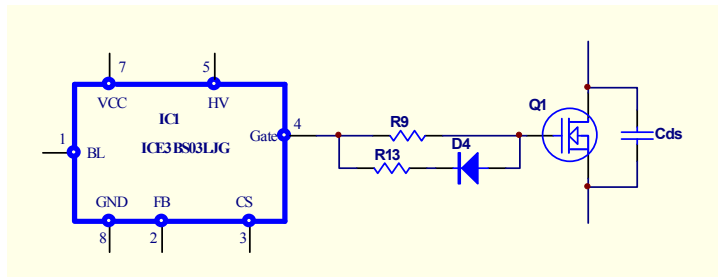

Figure 16 Drain-source capacitor and turn on/off drive resistor
1. Add capacitor (Cds) at the drain source pin (refer to Figure 16): it can slow down the turn off speed of the MOSFET and the high $\Delta V/\Delta t$ noise will be reduced and so is the EMI noise. The drawback is more energy will be dissipated due to slower turn off speed of MOSFET.
2. Adjust the turn on (R9) and turn off (R13 and D4) gate series resistor (refer to figure 16) : it can fine tune the turn on and turn off speed of the MOSFET so that the EMI noise in some particular frequency can be reduced. The drawback is it would dissipate more energy with slower turn on/off speed of MOSFET.